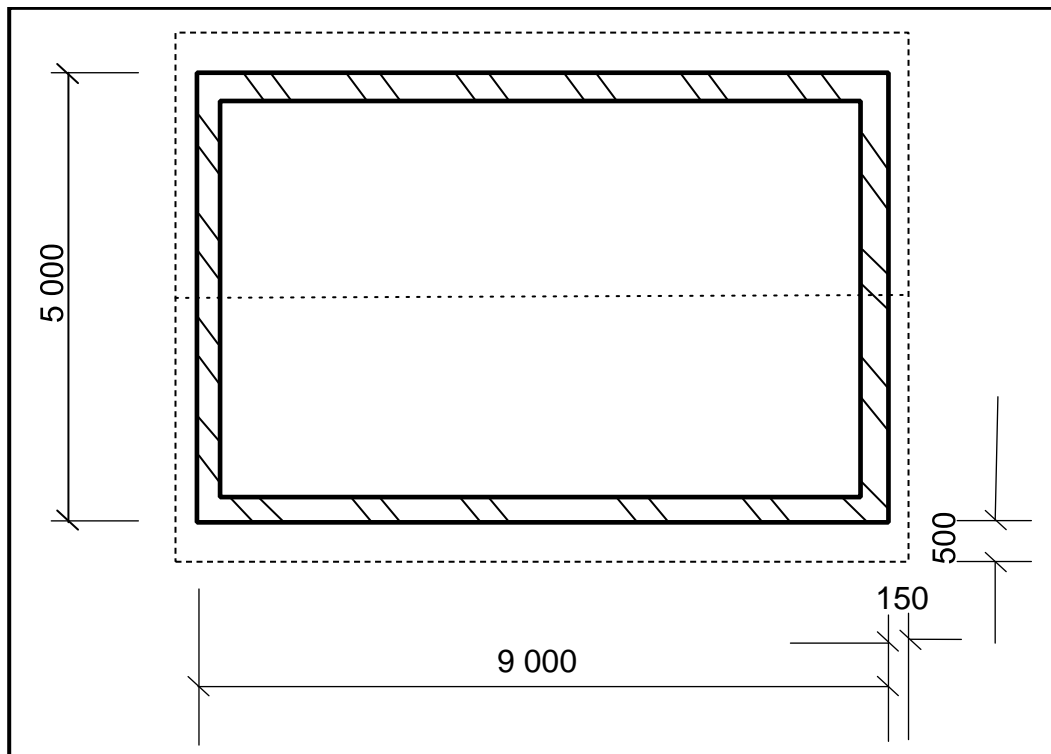

FIGURE 3.5
- 3.5 FIGURE 3.5 below shows the floor plan of a building with a gable roof. The external measurements are 9 000 mm x 5 000 mm.